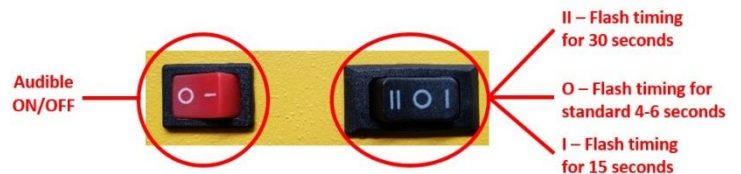

Figure 5
- 16) Using the Imminent Danger feature (see figure 5 for reference):